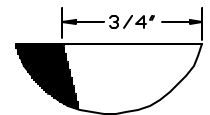
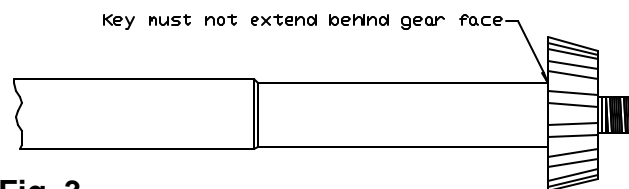

Fig. 1
Fig. 3
4) Refer to Fig. 1 and modify the Woodruff key by grinding or filing one end off until the key matches the drawing. Unlike the original installation - it is important that **the key must not protrude beyond the rear surface of the pinion gear**. See Fig. 3.
5) Temporarily fit the Woodruff key to the taper and "try" fit the pinion gear to the shaft to make certain that the key is not going to protrude behind the rear surface of the gear. See Fig. 3. Remove the gear and key after final modification and fitting.